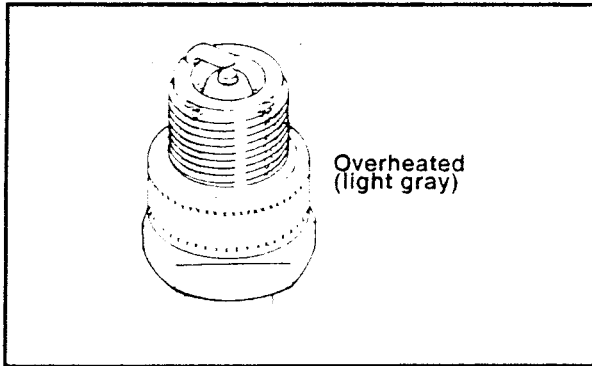

Figure 4-19. Overheated Plug.
- See Figure 4-19. A light grey, ash white insulator tip indicates a lean mixture caused by: